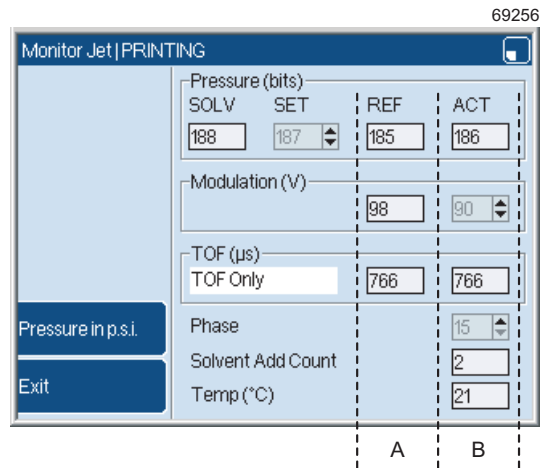

Figure 9. Monitor Jet page
Figure 9 shows three boxes in the column (A) that has the label "REF". These boxes contain fixed "reference" values that the printer uses in its calculations. These values are set when the printer is installed.
There are four boxes in this group and each box contains an ink pressure value. The units of measurement are shown in the brackets that follow the label "Pressure" (for example "bits" in Figure 9).